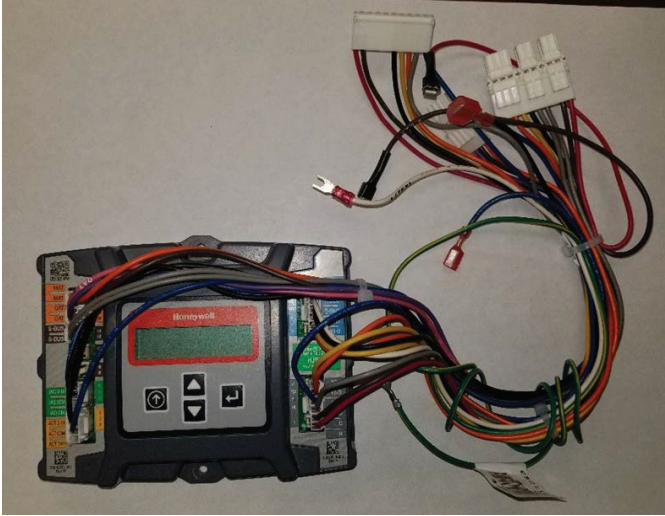

Fig. 26 — Remove Complete Harness Factory-Attached to W7220 Controller
2. The 48/50LC 07-12 units require different wiring than is factory-attached to the W7220 Jade controller. Disconnect the complete wiring harness factory-attached to the W7220 Jade controller, as shown below in Fig. 26. This harness can be discarded.